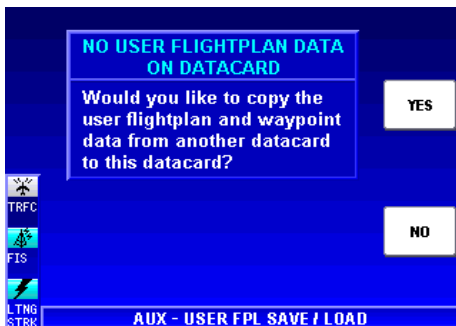

Figure 1-183
5. Figure 1-183 will be displayed to allow flight plans and waypoints stored on the previous datacard to be moved to the new datacard. Press the **YES** Softkey to move stored data. Other wise press the **NO** Softkey.